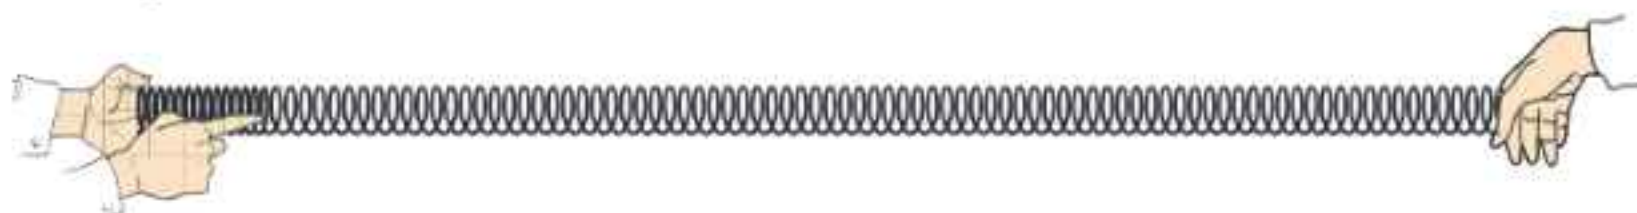

Fig. 43.3 : Formation of a longitudinal pulse in a slinky
6. In this case the slinky coils do not move at right angles to the direction of the disturbance. The coils rather bunch up in an area and the bunch appears to move forward in the slinky. The slinky coils move back and forth. Thus the pulse created is longitudinal (Fig. 43.3).